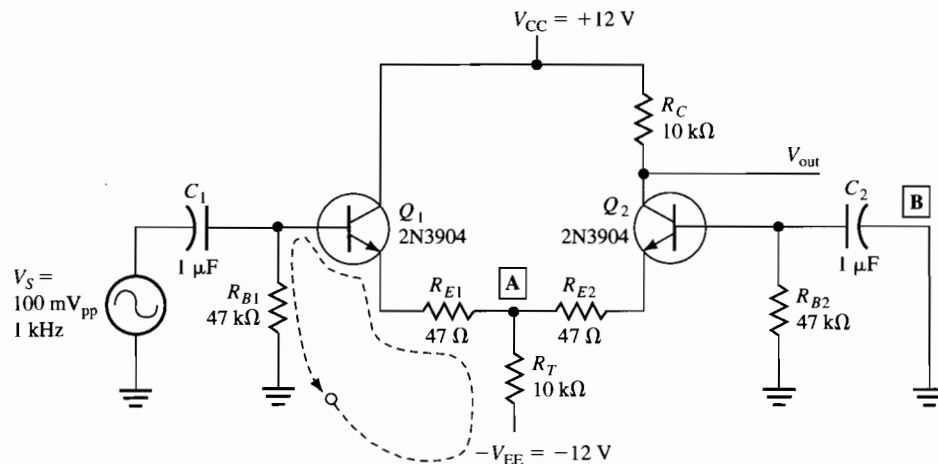

Figure 43–2
2. The circuit shown in Figure 43–2 is a differential amplifier with single-ended output and emitter bias. Except for V_C , the dc parameters should be identical for Q_1 and Q_2 . The transistors are forward biased by the negative supply connected to the common *tail* resistor, R_T . Notice that R_T has *two* emitter currents in it, one from each transistor. To solve for the dc parameters in the circuit, the first step is to write Kirchhoff’s voltage equation for the closed path indicated by the dotted line on Figure 43–2. The first sign of each voltage drop is used in writing the equation. (Note that Kirchhoff’s voltage law can be written in either direction and obtain the same result.)
Compute I_E for the circuit shown in Figure 43–2. If you do not know the β_{dc} for your transistor, assume a value of 100. Enter your computed I_E in Table 43–2.
4. Construct the diff amp shown in Figure 43–2. The signal generator should be turned off. Measure and record the dc voltages listed in Table 43–2. Your measured and computed values should agree within 10%.